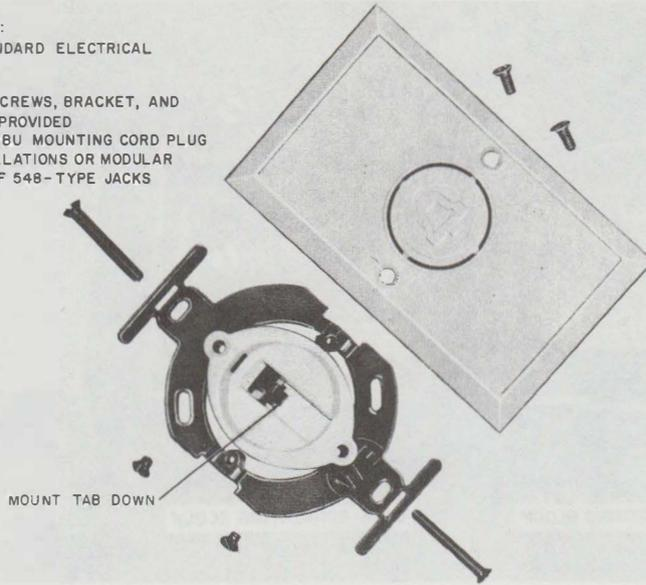

Fig. 2—625B Connecting Block (With Mounting Hardware)◆
- Provide top/bottom orientation to modular connectors (Fig. 2, 3, and paragraph 3.11) and Warning to paragraph 3.01
- Block, Connecting, 625B (Fig. 2)
2.03 The **625B** connecting block (Fig. 2) includes the 625F connecting block, 65A faceplate package, and two mounting screws. It is intended for new installations or modular replacement of 548A jacks or 47F connecting blocks.
(b) **Flush-type:** Jack-opening oriented with spring contacts up and tab down (Fig. 2, 3, and 7).
3.03 625B Connecting Block: Mount the bracket on a standard electrical outlet box or directly to the wall (must have recessed area) using the mounting screws supplied (see Fig. 2). Feed the station wire through the center mounting hole of the bracket and terminate the leads on the connecting block as shown in Table A. Mount the connecting block on bracket and fasten with the two screws supplied. Attach faceplate with the two screws supplied.